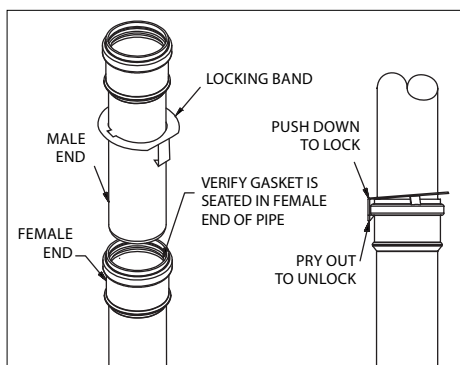
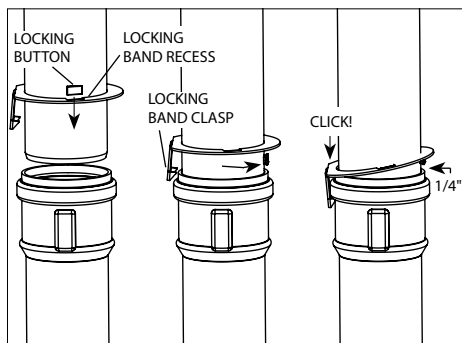
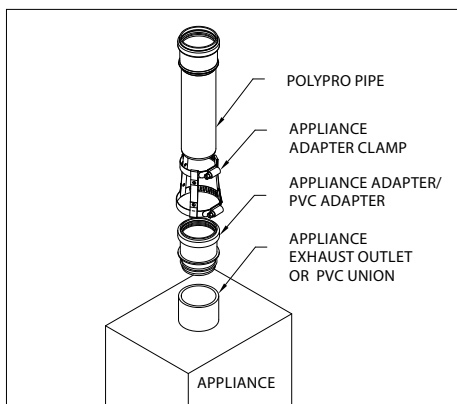
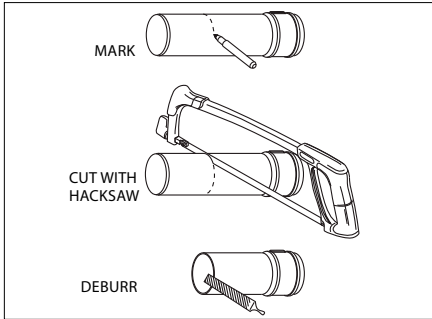

Figure 2
Figure 3
Figure 4
Figure 6
Verify the gasket is seated evenly inside the groove in the female end. There are two versions of locking band available, one with standoff legs (**Fig.2**), one without (**Fig.3**). For both: Slide Locking Band on male pipe section. **Fig.2: For pipe without Locking Button:** Slide pipe sections together until joint is bottomed out then slide apart 1/4" to 5/8" (7.5 - 15 mm) for expansion. Clip the locking band clasp onto the female hub.
Fig.3: For PP/Metal pipe with Locking Button: Insert locking button into locking band recess, rotate button away from Locking Band Clasp, insert pipe sections, push lock band clamp downward into socket, disengage button 1/4" from socket. **Screws are not allowed for joint connection. Never penetrate the wall of PolyPro vent pipe. (Exception- a SS screw may be used outside the building on exterior termination fittings to orient an elbow, etc).**
mandatory on all exhaust vent joints on pipe sizes from 2" up to 4". (Fig.2, 3)
- For 5"-8" diameter, Locking Bands are not required but strongly recommended at every exhaust vent joint. (Fig.2, 3)
- Locking bands are optional for air inlet vent joints. (Fig.2, 3)
Approved M&G DuraVent / Security Chimney 1738/636 metal vent fittings can be used with PolyPro. For PolyPro (female) to Metal Vent (Male) connections, the metal fittings will have a Locking Button or Protrusion, and will be connected similar to **Fig. 3**.
1. If the appliance has a PVC/CPVC female outlet use the Appliance Adapter/ PVC Adapter and Clamp. (**Fig.4**)
- Pipe lengths may be cut to length (**Fig.6**). **Use an alternate clamp (Fig.4-PPS-PAC / PPS-LBC) for the connection if a locking button (Fig.3) is removed.**